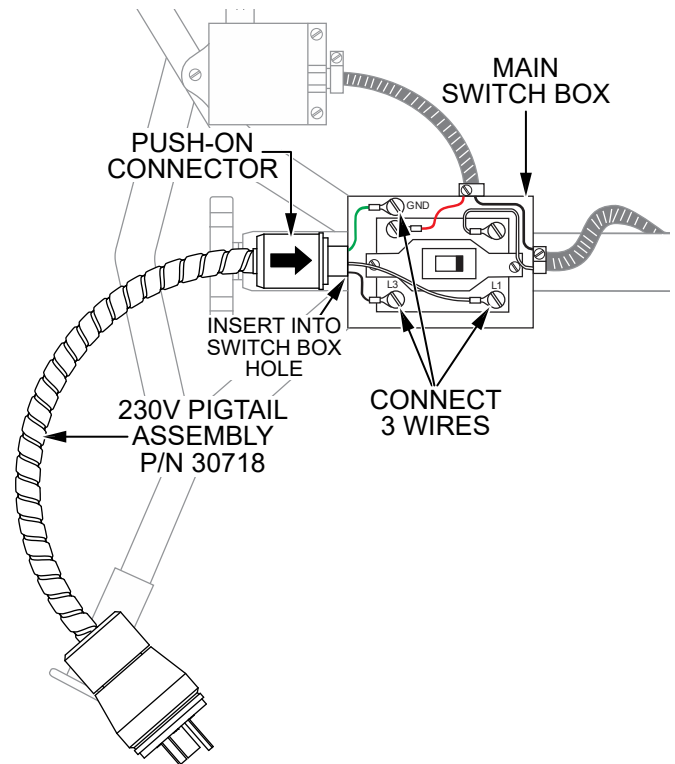

Figure 6. Install New Power Cable
3. Connect the three pigtail assembly wires inside the main switch box as shown in Figure 6.
4. Finish installing the 230V pigtail assembly (P/N 30718) by inserting the push-on liquid-tight connector into the open hole on the main switch box. Make sure the connector is fully seated in the hole. See Figure 6.